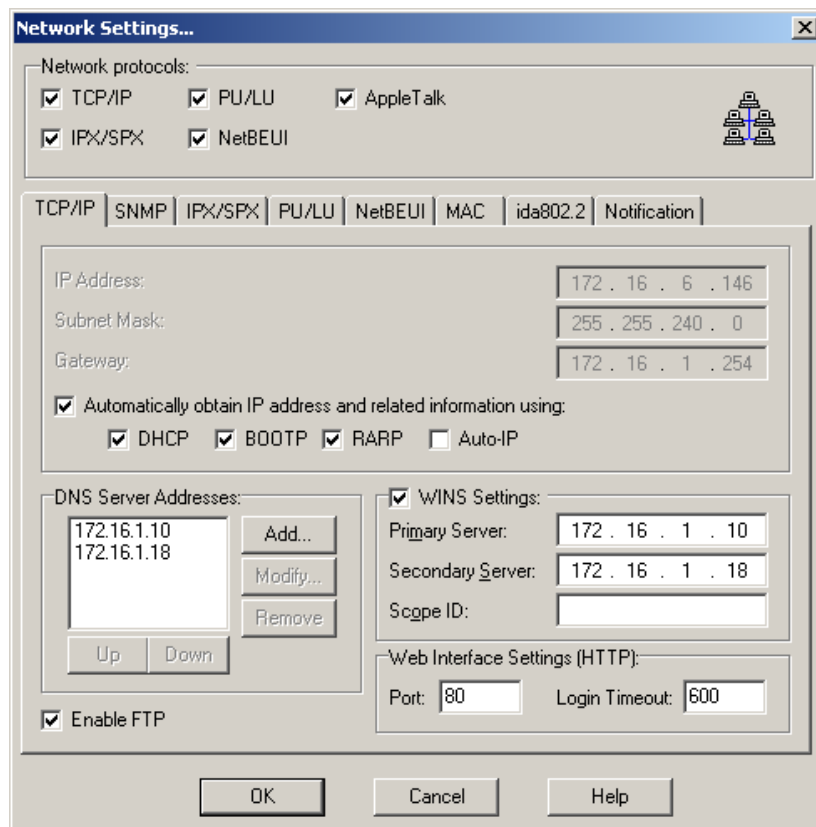

Figure 14
2. Select the **Network Protocol** you intend to use, and click the corresponding tab to configure the network protocol (Figure 14).